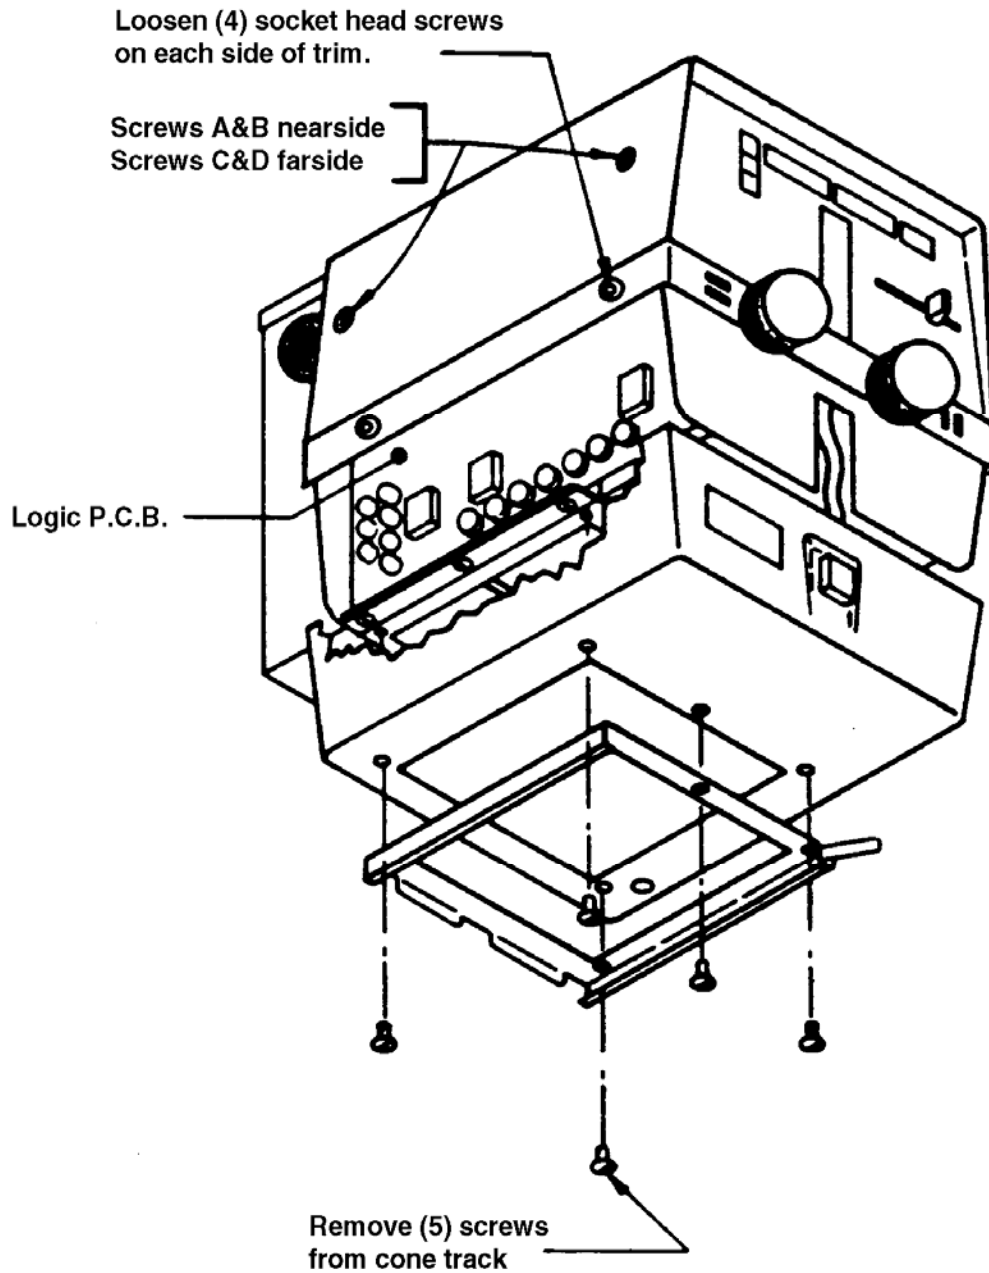

Figure 1-6. Top and bottom cover removal.
- (1) The X-ray tube support and the table must include angulation indicators to be used for the following tests.
- (2) The X-ray tube-support device also must include SID-indicating means.
- (3) Measuring tape or ruler to be used as a backup for the SID indicating means and as an operational range measurement.
d. **Collimator Cover Removal.** Refer to figure 1-6. Take the following actions to gain access to the top half of the logic PCB and the lamp-driver PCB behind the front panel.